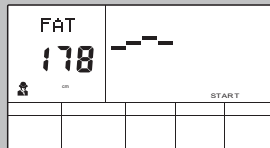

fig 39
G. Press START/STOP to begin testing your body fat. (See fig 39)